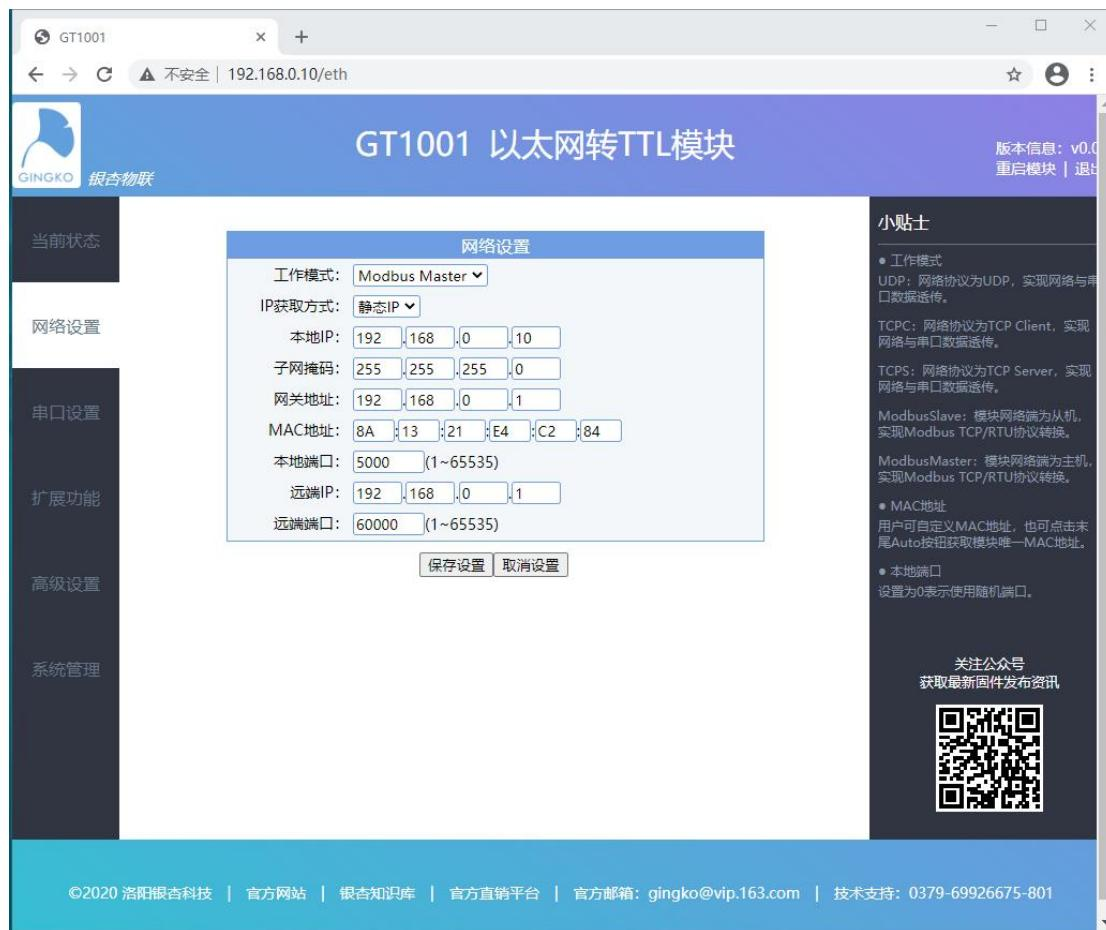

Figure 7-3 Network Parameter Settings
(3) In the "Network Settings" item, you can set the relevant parameters of the network, as shown in Figure 7-3. After setting, click Save Settings. That's enough.